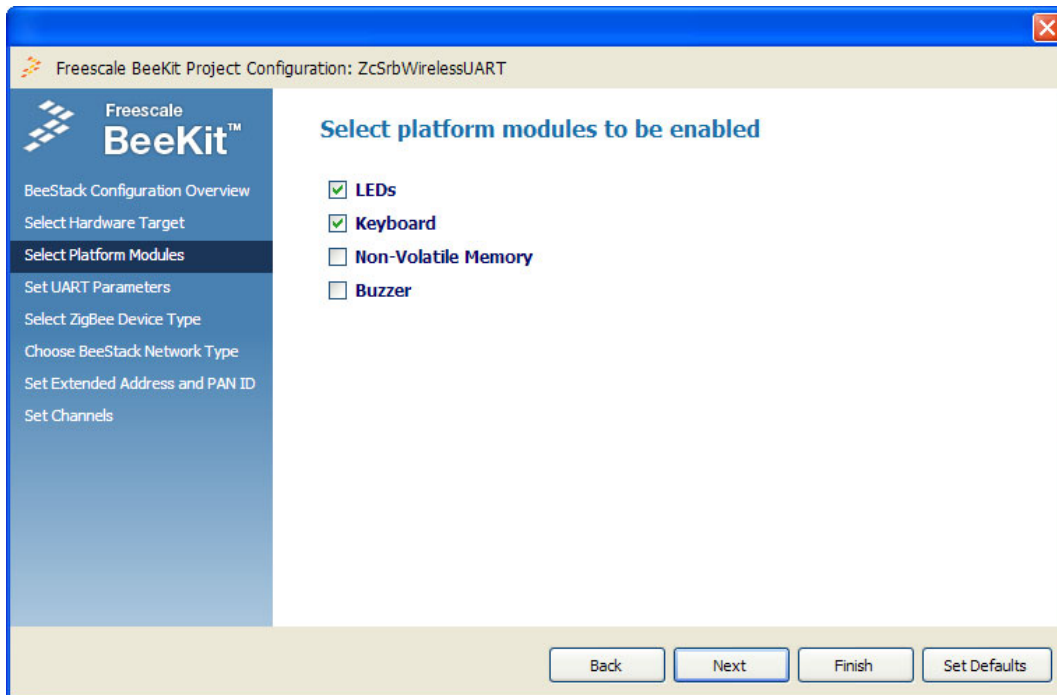

Figure 5-5. Platform Modules Page
2. Select the MC1321x-SRB option and click on the Next button. The Select Platform Modules window appears as shown in Figure 5-5.